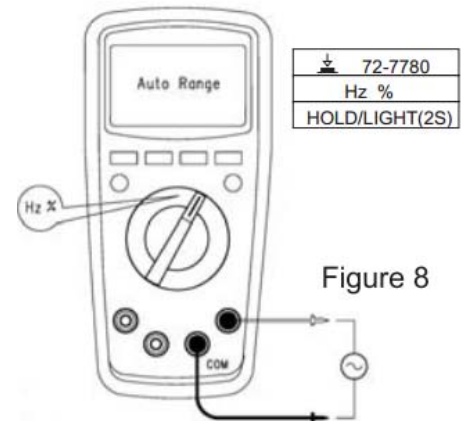

Figure 8
6. Frequency/Duty ratio measurement (see figure 8)